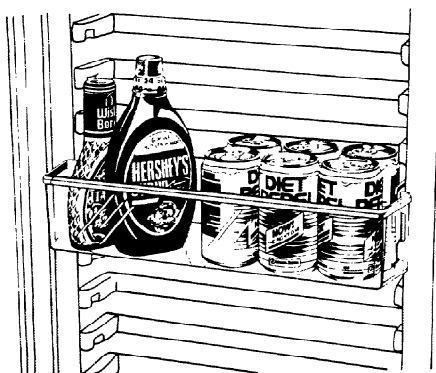

FIGURE 68
**Door Buckets.** There are three deep door buckets that can be moved up or down to fit storage needs. The deep door buckets allow for easy storage of six-pack items for convenience. See Figure 68. To remove the door buckets follow the instructions on page 27 for chiller bucket removal. To install the door buckets follow the instructions on page 27.